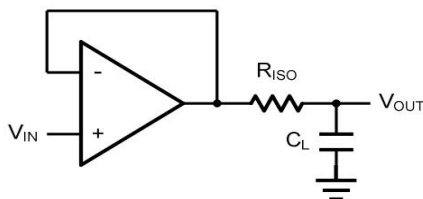
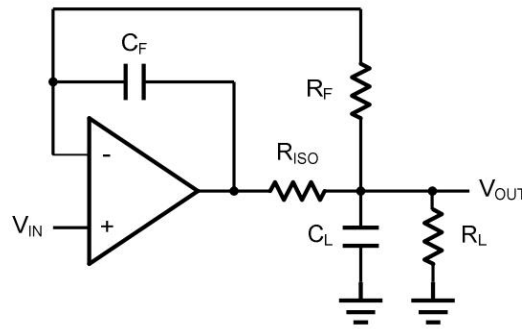

Figure 2. Indirectly Driving a Capacitive Load Using Isolation Resistor
Figure 3. Indirectly Driving a Capacitive Load with DC Accuracy
The HGV245X family is optimized for bandwidth and speed, not for driving capacitive loads. Output capacitance will create a pole in the amplifier's feedback path, leading to excessive peaking and potential oscillation. If dealing with load capacitance is a requirement of the application, the two strategies to consider are (1) using a small resistor in series with the amplifier's output and the load capacitance and (2) reducing the bandwidth of the amplifier's feedback loop by increasing the overall noise gain. Figure 2. shows a unity gain follower using the series resistor strategy. The resistor isolates the output from the capacitance and, more importantly, creates a zero in the feedback path that compensates for the pole created by the output capacitance.
The circuit in Figure 3 is an improvement to the one in Figure 2. R_F provides the DC accuracy by feed-forward the V_{IN} to R_L . C_F and R_{ISO} serve to counteract the loss of phase margin by feeding the high frequency component of the output signal back to the amplifier's inverting input, thereby preserving the phase margin in the overall feedback loop. Capacitive drive can be increased by increasing the value of C_F . This in turn will slow down the pulse response.